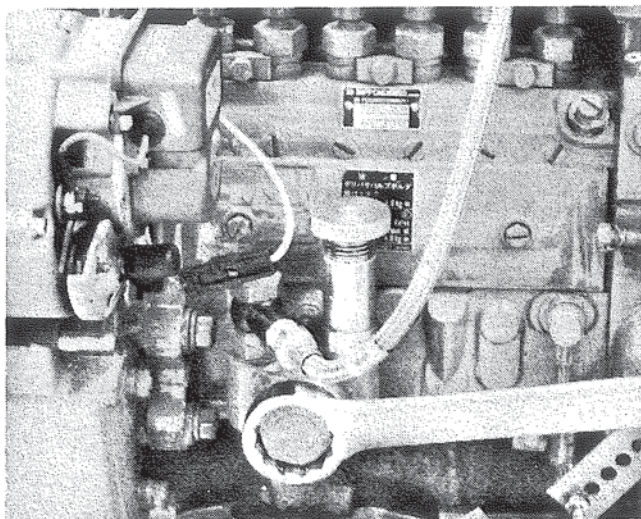

Figure 20. Removing Inlet Screw.
1. Remove inlet screw from bottom of feed pump, Figure 20.